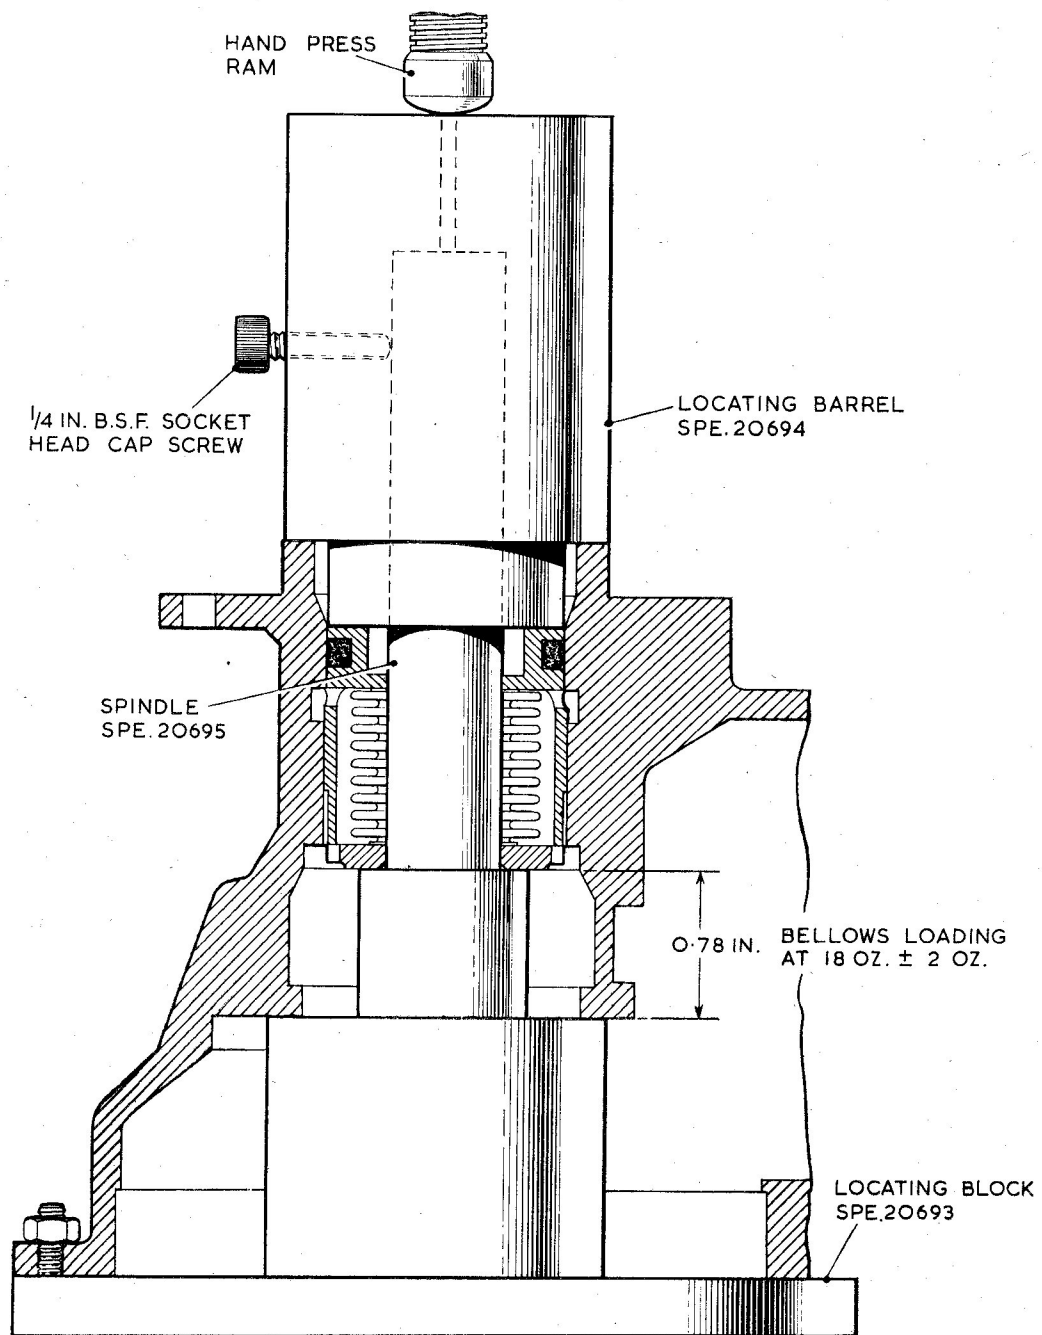

Fig. 13. Bellows gland assembly tools
(2) Fit a new seal ring (48) in the groove in the bellows gland (81).
(3) Place the bellows unit on the spindle SPE.20695 (fig. 13). Ensure that the locking screw in the locating barrel SPE.20694 is clear of the bore. Place the barrel on the spindle, resting upon the gland. Tighten the locking screw permitting no movement of the assembly. Using a hand press and pump casting location tools illustrated in fig. 13, press the bellows gland into the pump casting (85). Tooling will correctly position the bellows gland to give correct gland loading on assembly.